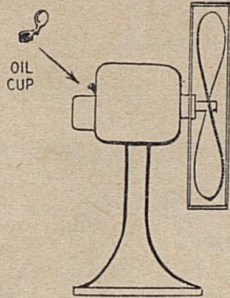

Fig. 36
2. If your fan is of the type shown in Fig. 36 and is in constant operation it should be lubricated at least weekly with 2 or 3 drops of electric motor oil.